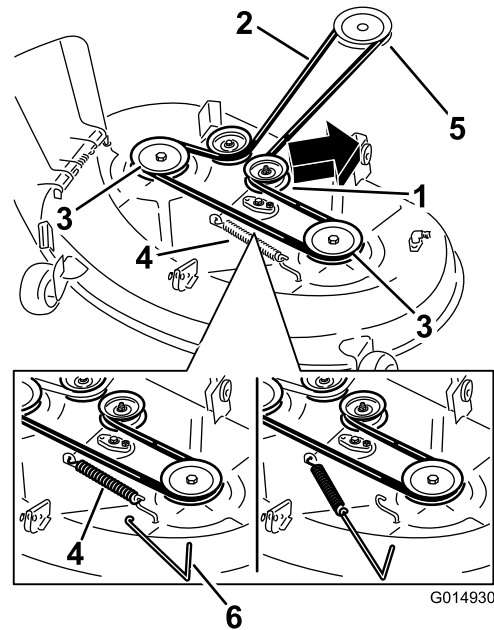
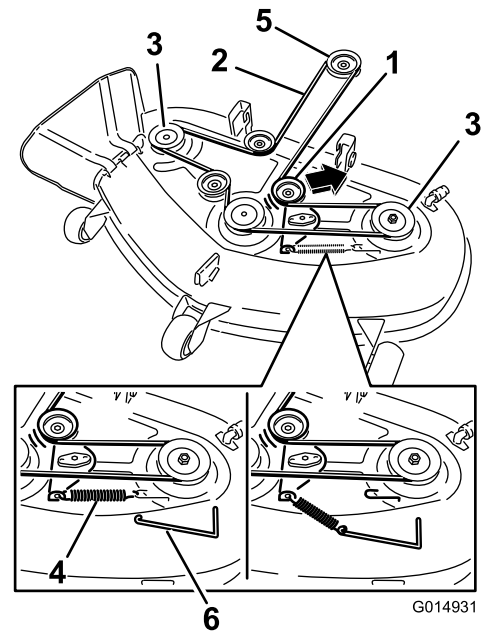

Figure 69
Figure 70
4. Using a spring removal tool, (Toro part no. 92-5771), remove the idler spring from the deck hook to remove tension on the idler pulley and roll the belt off of the pulleys (Figure 69 and Figure 70).
5. Route the new belt around the engine pulley and mower pulleys (Figure 70).
- Using a spring removal tool, (Toro part no. 92-5771), install the idler spring over the deck hook and placing tension on the idler pulley and mower belt ((Figure 69 and Figure 70)).